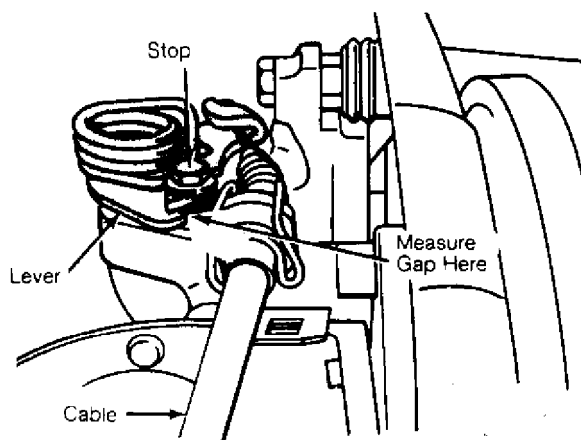

Fig. 3: Adjusting Rear Disc Parking Brake
1) Raise and support vehicle. Disengage parking brake. Loosen locking nuts at parking brake lever. Tighten adjusting nuts until levers on calipers just move off stops. Measure gap between stop and lever. See Fig. 3.